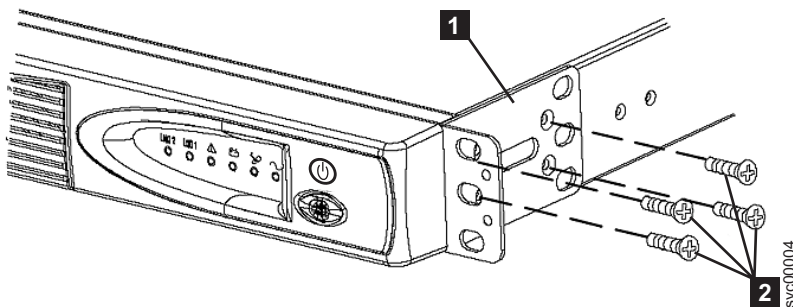

Figure 314. Installing the support rails for a 2145 UPS-1U into the rack
2. On each side of the 2145 UPS-1U, attach the long end of a mounting bracket to the 2145 UPS-1U using four of the supplied M3 × 6 screws ( **2** in Figure 314).